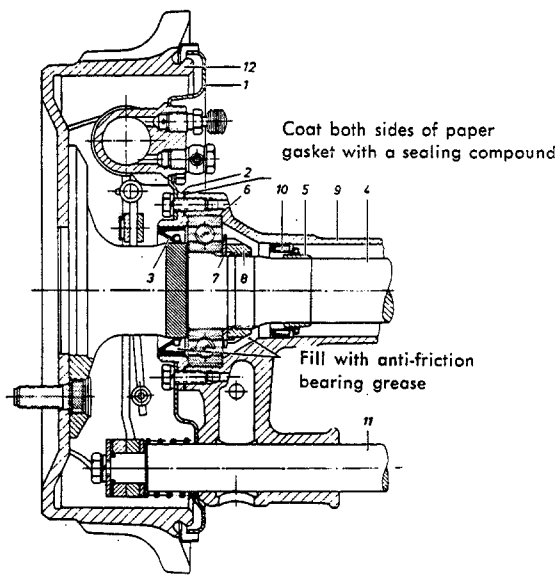

Fig. H 3a/75
75. Press a new grease retainer into the rear axle tube by means of punch 180 589 03 39. The retainer must be pressed in up to the collar to prevent any damage to the sealing ring (Fig. H 3a/75).